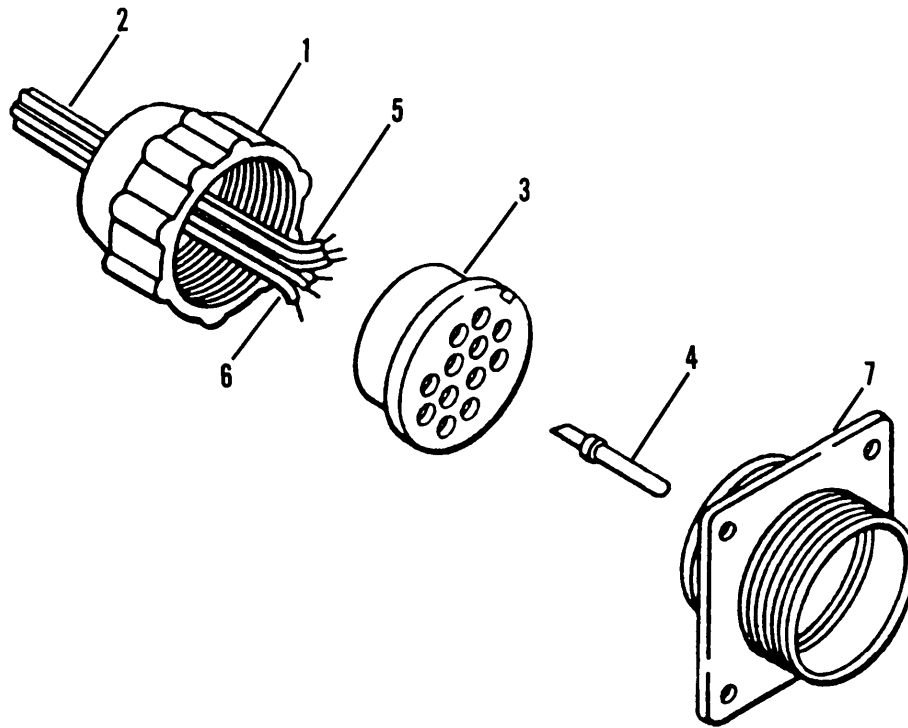

Figure 4-4. 24 Volt Receptacle Assembly
- (1) Unscrew grommet retaining nut (1, fig. 4-4) and slide back on cable assembly (2).
- (2) Slide grommet (3) on cable assembly (2).
- (3) Using removal and installation tool from electrical connector repair kit, pull inserts (4) forward out of receptacle assembly grommet (7).
- (4) Using soldering gun, heat solder well and remove pins (4) from wire end (5).
- (5) Tag wires with letters on face of the grommet (3).
- (6) Pull wires (6) out of grommet (3) and nut (1).